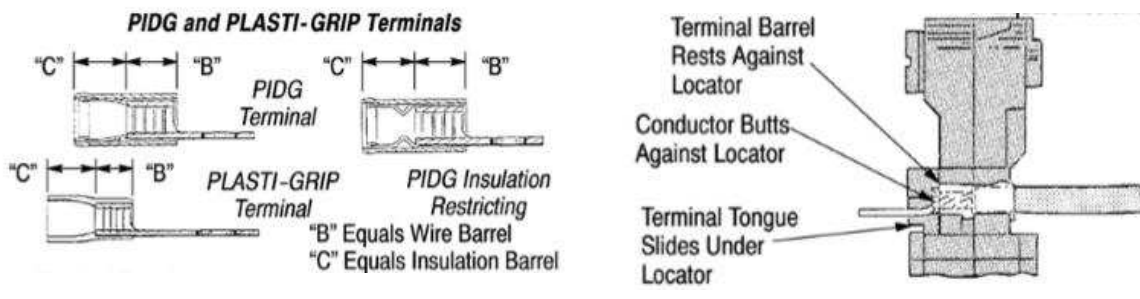
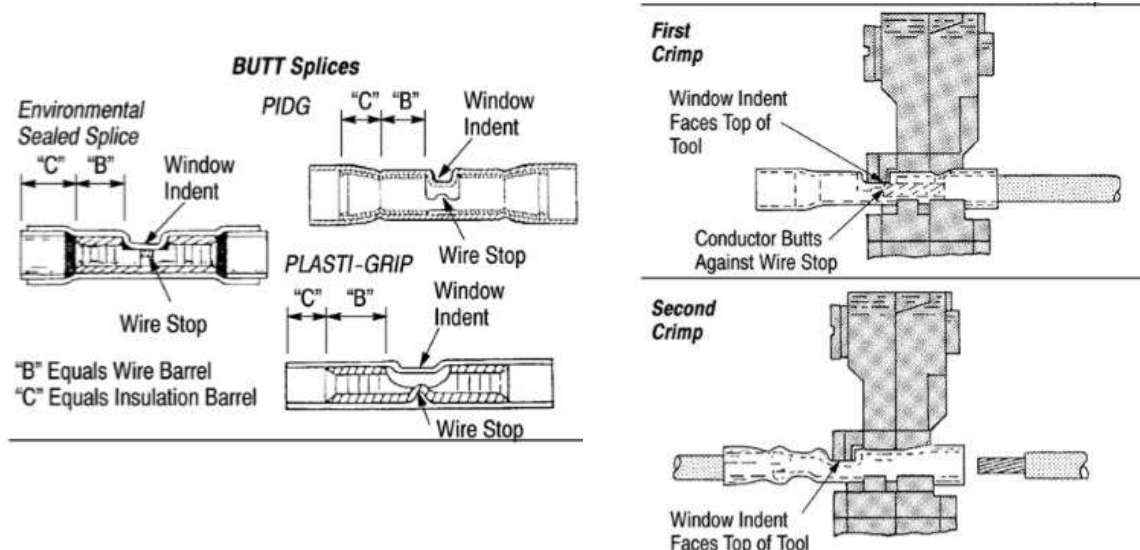

Figure 3
Figure 4
- Place terminal in crimping dies so that terminal tongue slides under locator (see Figure 3).
- Raise locator and place splice under locator as shown in Figure 4 (splice window indent faces top of tool).
To properly position pre-insulated sealed splice, apply and maintain pressure against end of splice until Step 5 is completed. See Figure 4.
- Insert stripped wire into terminal until conductor butts against locator (see Figure 3). Insert stripped wire into splice until conductor butts against splice wire stop (see Figure 4).
3. Insert UNSTRIPPED wire into ONLY the insulation barrel (see Figure 3 or Figure 4) of terminal or splice.